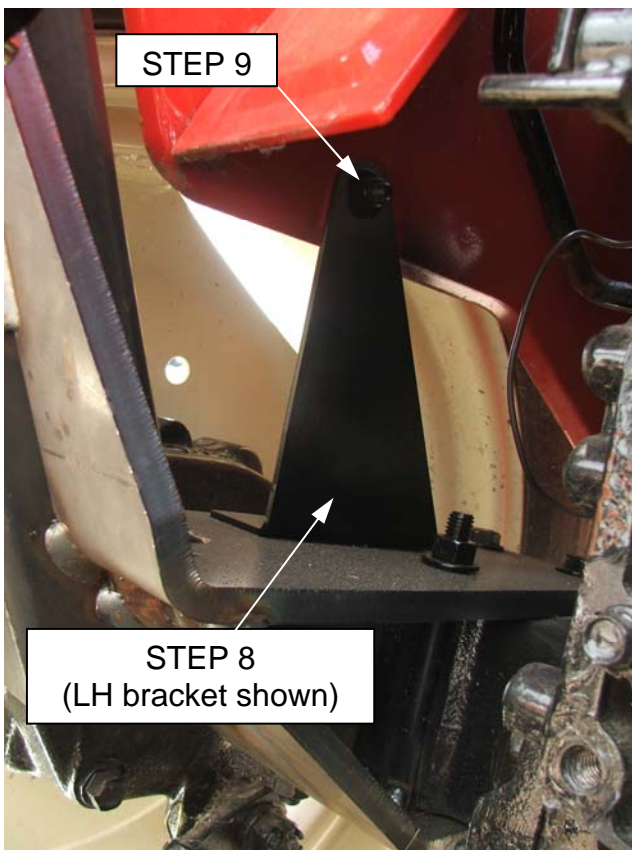

FIGURE 3
**Seatbelt Installation (Refer to Figures 3 & 4)**
- 8) Install LH and RH fender support brackets by removing the rear outer nut and bolt. Secure the bracket onto the ROPS upper plate and re-install nut and bolt. See Figures 3 & 4.